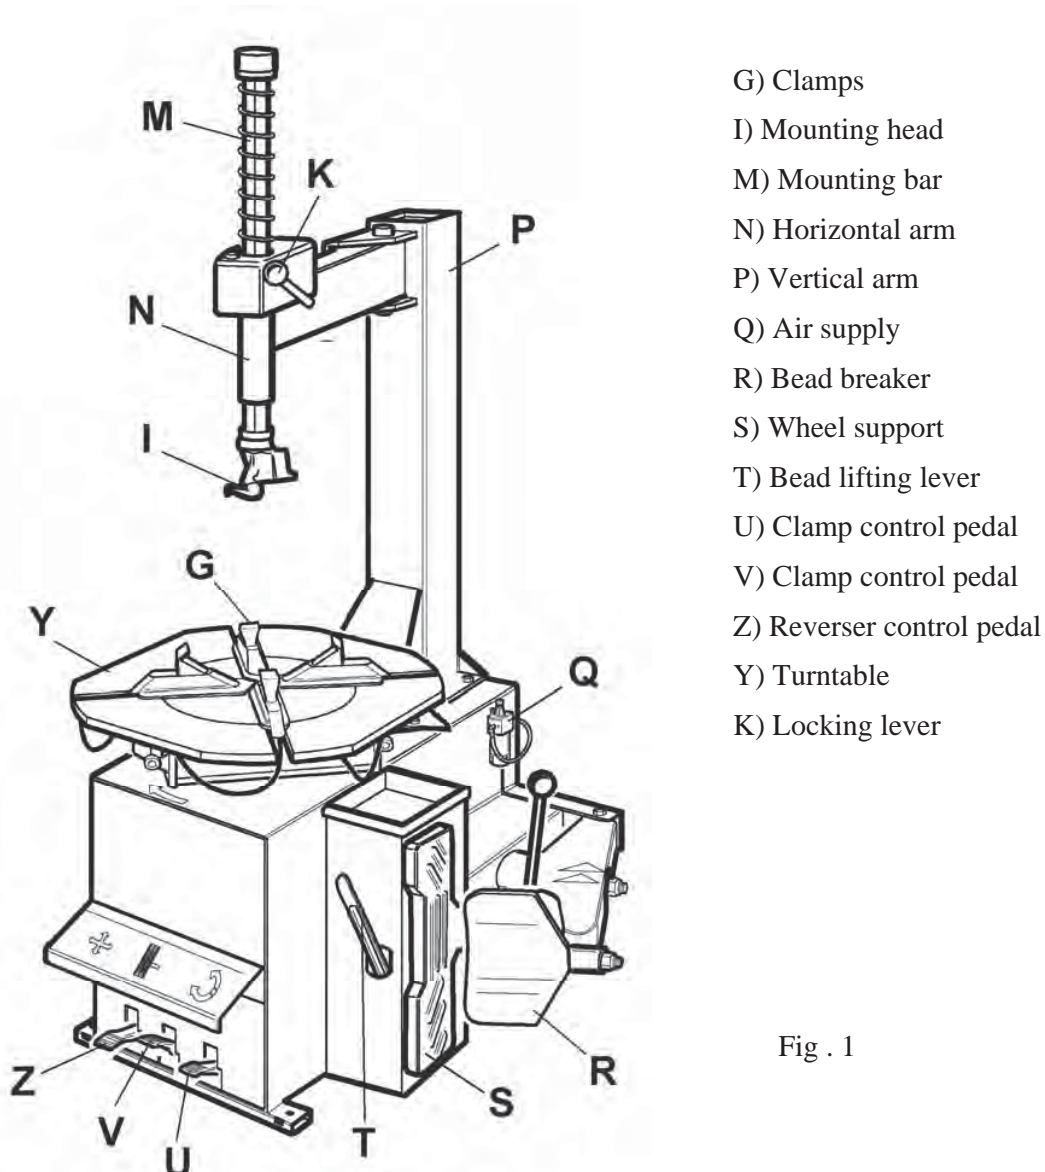

Fig . 1
- Check that the equipment is in perfect condition, making sure that no parts are damaged or missing. Use fig. 1 for reference.